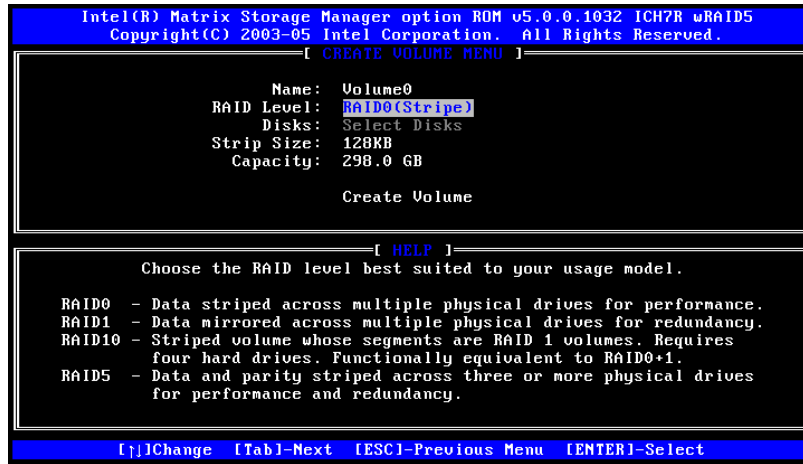

Figure A-3: Choose the Raid Level
Step 3: Choose the RAID level. Select a RAID level from the list. RAID levels include RAID 0, 1, 5 and 10. See **Figure A-3.**